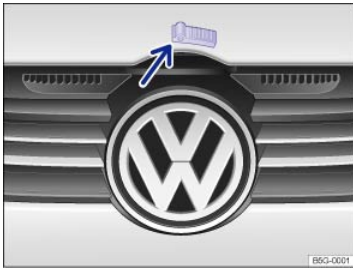

Fig. 197 Above the radiator grille: Outside engine hood release.
- Push the outside hood release lever ⇒ *Fig. 197* (arrow) and lift the hood all the way up. A gas-filled strut will hold the hood up.